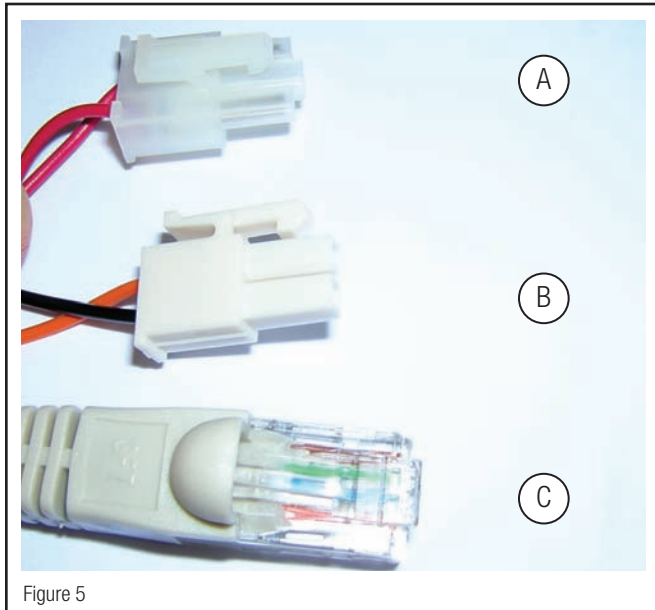

Figure 5
6. Attach appropriate connectors to incoming wiring (Figures 5 and 6). The housing has two inputs for power - one for heaters, and one for camera and blower. See the general specifications for current draw at the appropriate voltage.